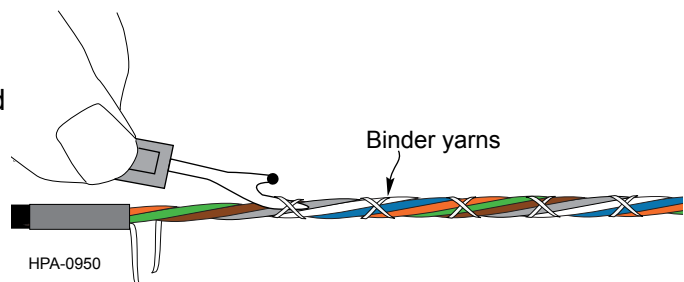

Figure 18
Step 10: Using the seam ripper, cut the binder yarns every few inches (Figure 18). Remove the yarns from around the buffer tubes and carefully trim the yarns flush at the tape wraps.